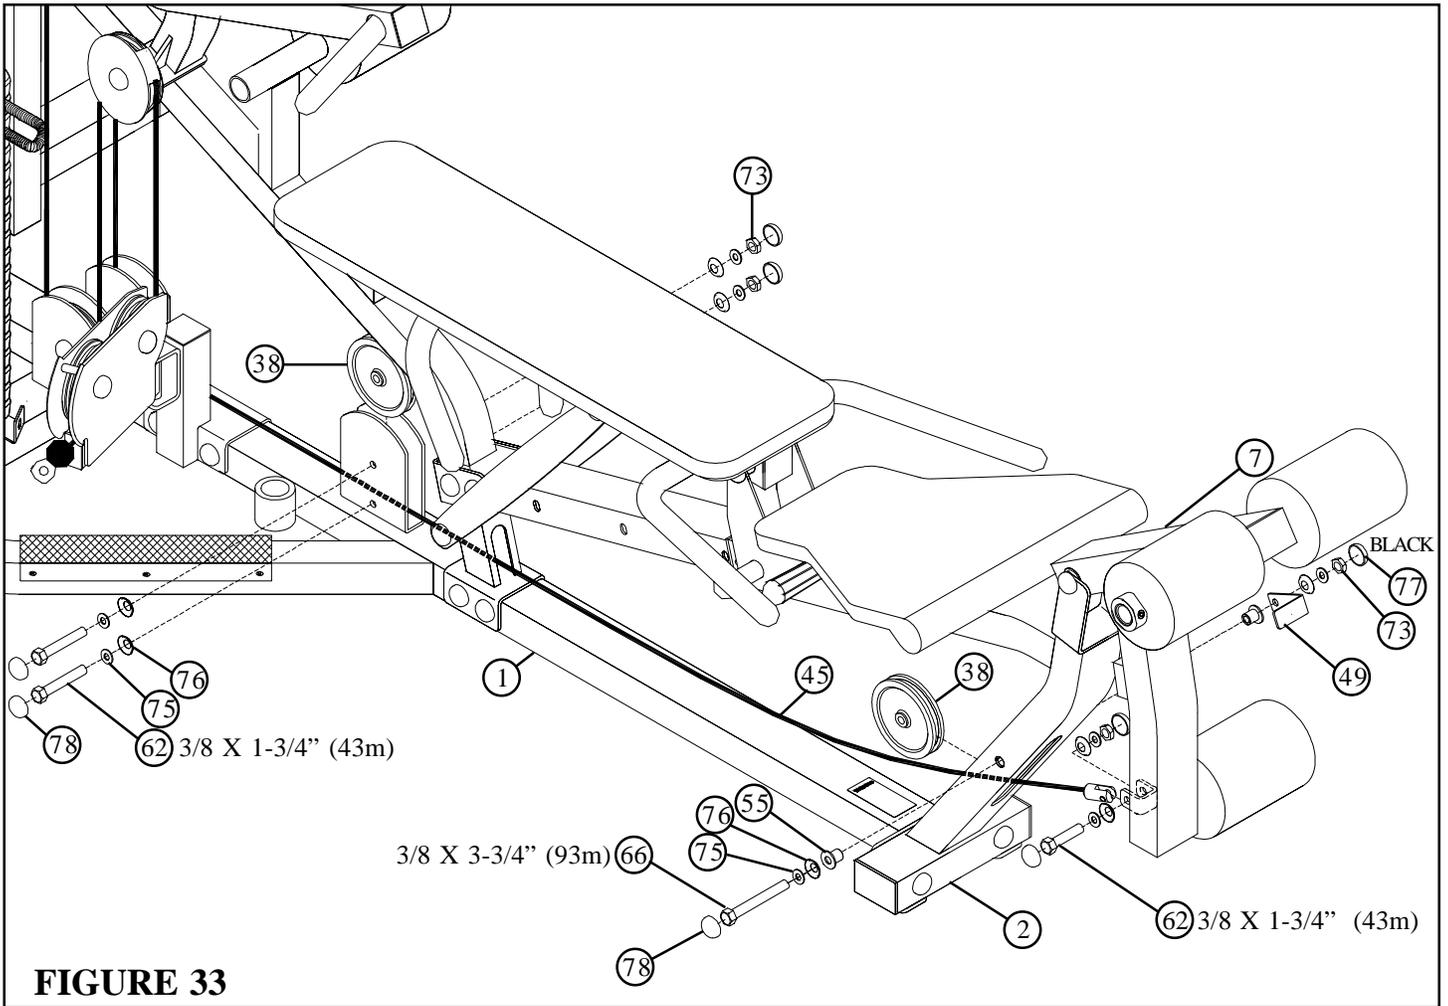

**FIGURE 32**
- Route the LEG CABLE (45) around one 4-1/2" PULLEY (38) and assemble the PULLEY (38) to the lower holes of the two DUAL PULLEY PLATES (21) using two RH CAPS (78), one 3/8 X 1-3/4" BOLT (62), two 3/8" SAE WASHERS (75), two 3/8" RH WASHERS (76) and one 3/8" LOW HEIGHT LOCK NUT (73) as shown in FIGURE 32.
- Route the LEG CABLE (45) around a 4-1/2" PULLEY (38) and assemble it to the bracket on the BASE (1) using four RH CAPS (78), two 3/8 X 1-3/4" BOLTS (62), four 3/8" SAE WASHERS (75), four 3/8" RH WASHERS (76) and two 3/8" LOW HEIGHT LOCK NUTS (73) as shown in FIGURE 32.